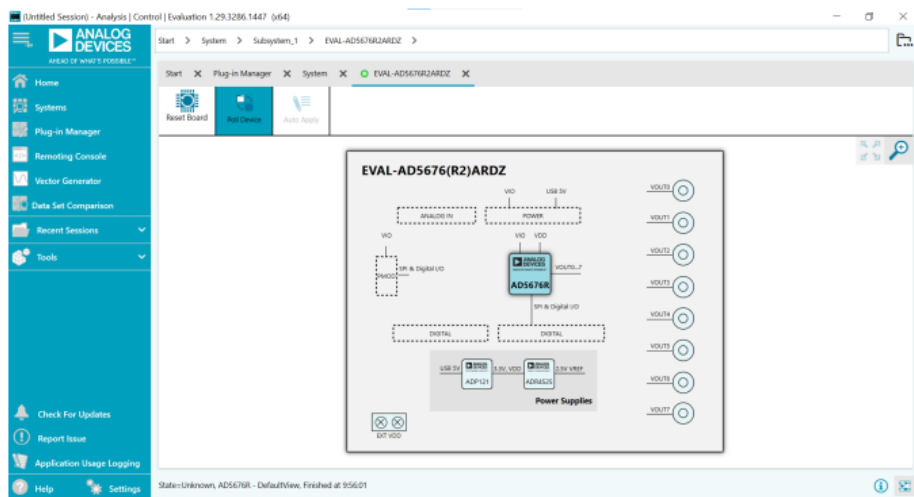

Figure 3. Board View of the EVAL-AD5675RARDZ or EVAL-AD5676R2ARDZ
3. Double-click the board plugin to open the board view shown in Figure 3.